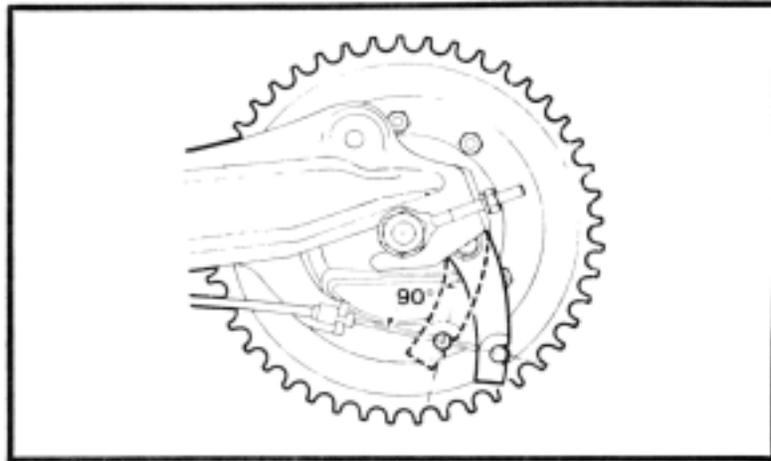

Fig. 8-19. Sachs brake levers can be adjusted for best leverage.
**Adjustment.** The brake cable must be shortened to compensate for lining wear. Depending upon the manufacturer, the cable adjustment may be at the handlebar, the backing plate, or at both locations. In any event, loosen the locknut and thread the adjuster barrel out, toward the center of the machine. Sachs hubs have an additional refinement—the lever and cam are in two parts, geared together. The purpose of this is to restore leverage to worn linings, for as the linings wear, the lever works at a progressively more unfavorable angle (Fig. 8-19). It can be repositioned at right angles to the cable by disassembling the backing plate and meshing the gears for earlier engagement.